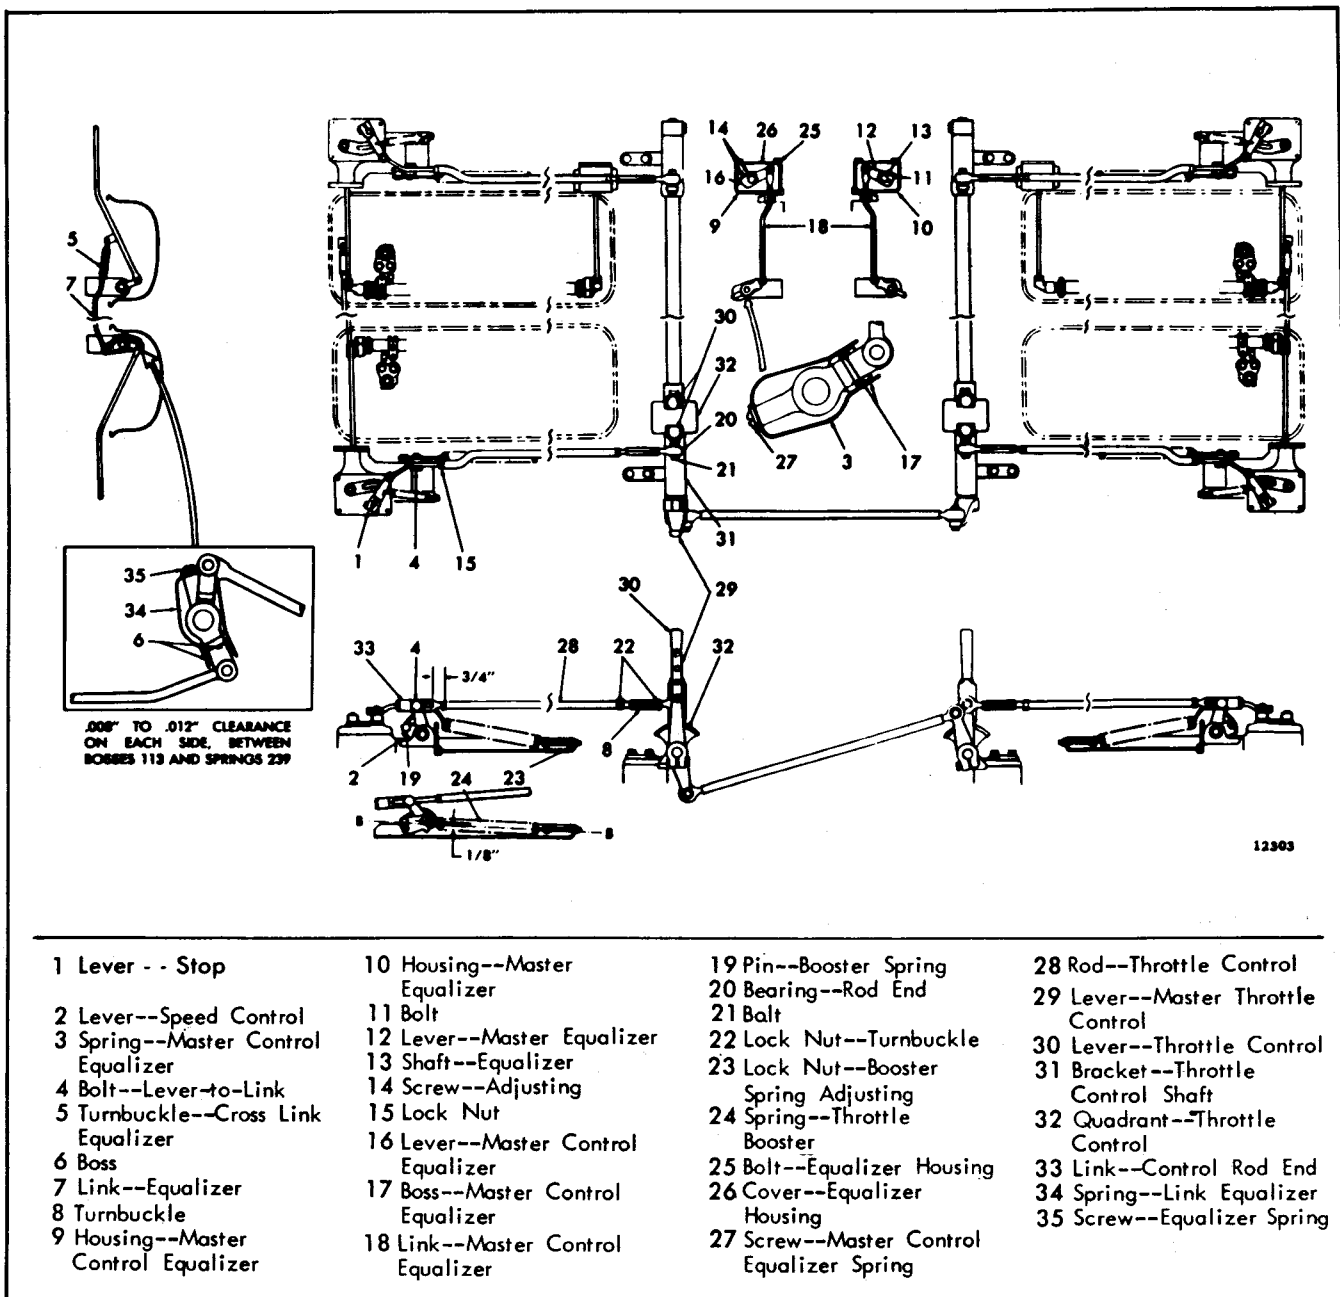

Fig. 2 - Diagram of Throttle Control Linkage for Quad Units with Variable Speed Mechanical Governors
15. Loosen the turnbuckle lock nuts (12), and adjust the cross link equalizer turnbuckle (4) until both engines are idling at the same speed. The clearance between each leg of the link equalizer spring (21) and the lower bosses (5) should be equal.
17. Start the engines, move the throttle control lever (16) to the maximum speed position and check the maximum no-load speed of each engine. The speed should be the same as previously set. If not, check for binding in the equalizer.
20. If a difference of more than 25 rpm exists, check the tune-up of each engine. Then adjust the master control equalizer between the front and rear engine pairs in the quad unit (Fig. 2).
22. Remove the bolts (25), covers (26) and gaskets from the master equalizer housings (9) and (10).
23. Loosen the bolt (11) until the master equalizer lever (12) swings freely on the equalizer shaft (13).
24. Turn the adjusting screws (14) until they are threaded equally into the master control equalizer lever (16) and are contacting the flats in the equalizer shaft. The adjusting screws should be fairly tight.
25. With each throttle control lever (30) latched to its quadrant (32), move and secure the master throttle control lever (29) in the maximum speed position.
26. Move the master control equalizer link (18) and adjust each leg of the equalizer spring (3) and each